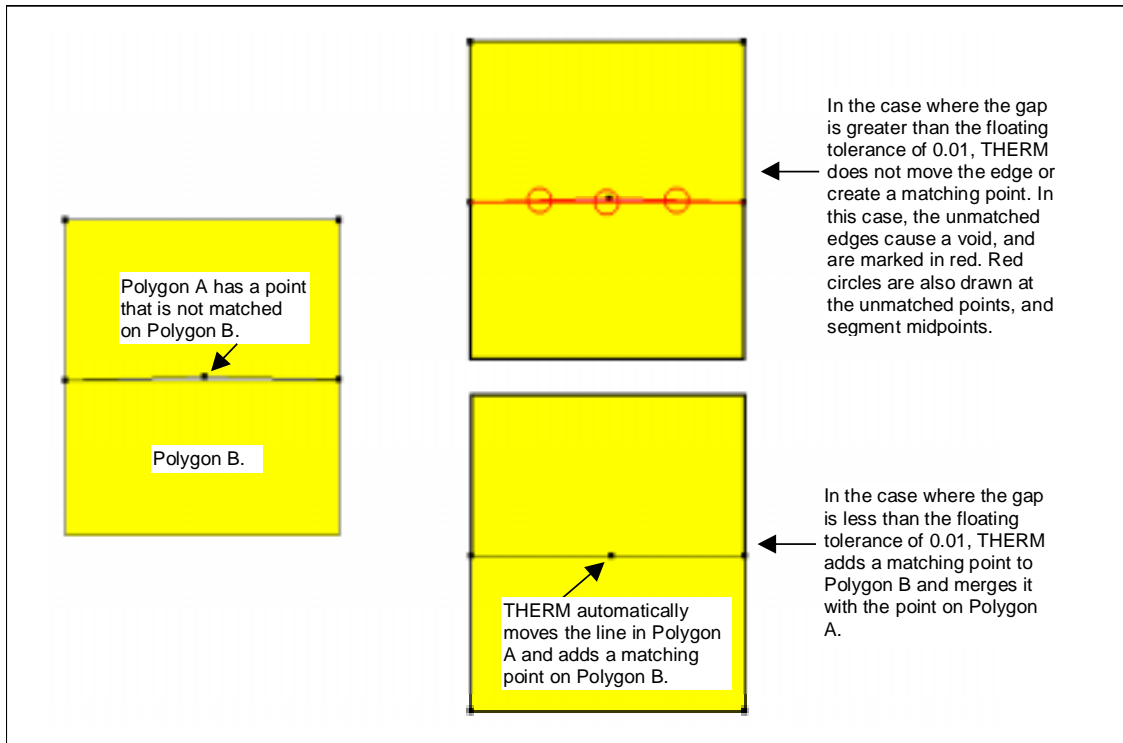

Figure 6-7. The size of the void in a drawing will determine how THERM will handle the error checking.
- First, THERM checks the polygon edges because the mesher needs exactly matching points on any polygons that are adjacent to each other. If a point exists on the edge of a polygon but not on the edge of an adjacent polygon, and if the adjacent edge is less than the floating point tolerance (0.01 mm), THERM automatically adds a point to the adjacent edge and merges the points so that there is an identically placed point on both polygons. If the distance between the adjacent edges is greater than the floating point tolerance, the program does nothing, and an unmatched edge is created resulting in either a void or an overlapping region, as shown in Figure 6.7.